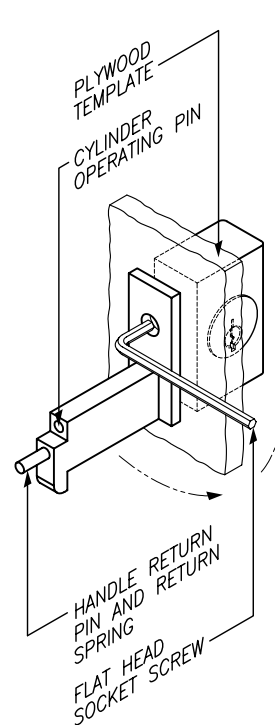

FIGURE 4
4. TO REMOVE ACTUATOR POST, UNSCREW FLATHEAD SOCKET SCREW WITH HEX KEY WRENCH (FIGURE 4) BEING CAREFUL THAT THE CYLINDER HOUSING OR RETAINING PLATE ON THE EXTERIOR SIDE OF THE TEMPLATE DOES NOT FALL. BE CAREFUL NOT TO LOSE THE CYLINDER OPERATING PIN, HANDLE RETURN PIN, RETURN SPRING, GASKETS, AND NYLON BUSHING (REUSE GASKETS ON GLASS).